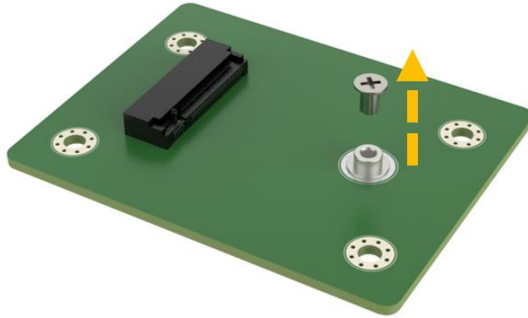

Figure 3-7: Removing the Retention Screw
- Step 4:** **Remove the retention screw.** Remove the retention screw for M.2 card installation as shown in **Figure 3-7**.